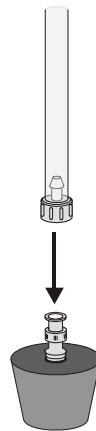

Figure 2
8. Connect the free-end of the plastic tubing to the connector in the rubber stopper as shown in Figure 2. Click **Collect** to begin data collection. Data collection will end after 3 minutes.